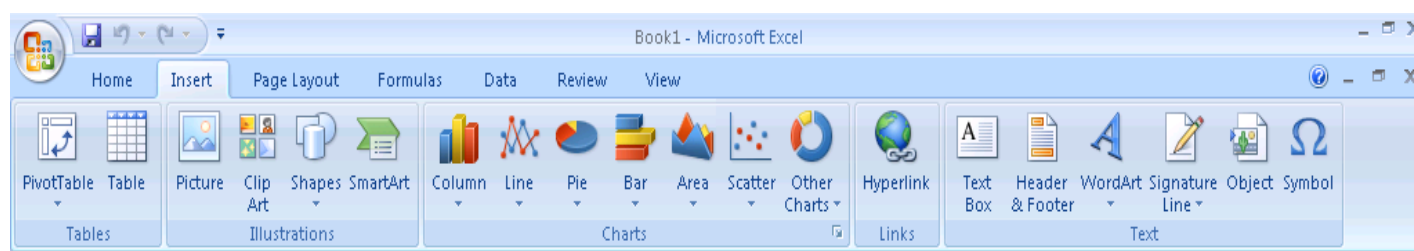

Figure-1
5.4 Click the “**Insert**” option on top side of excel sheet as per shown in **Figure-1**.